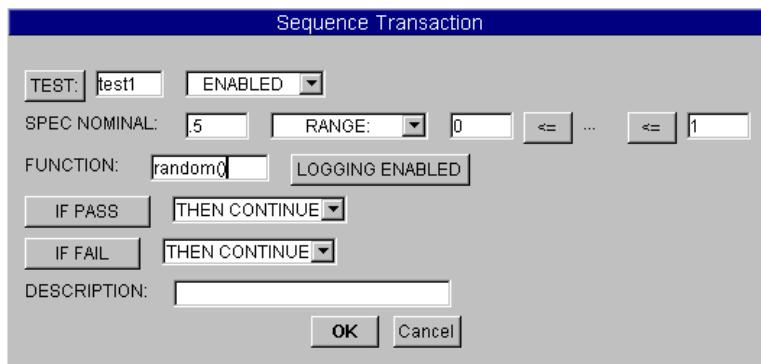

Figure 10-29. Configuring Test1
1. Click `Device` ⇒ `Sequencer`. Double-click the transaction bar, and configure your test using the default name, `test1`, and replacing the `FUNCTION:` field with `random()`. See Figure 10-29.